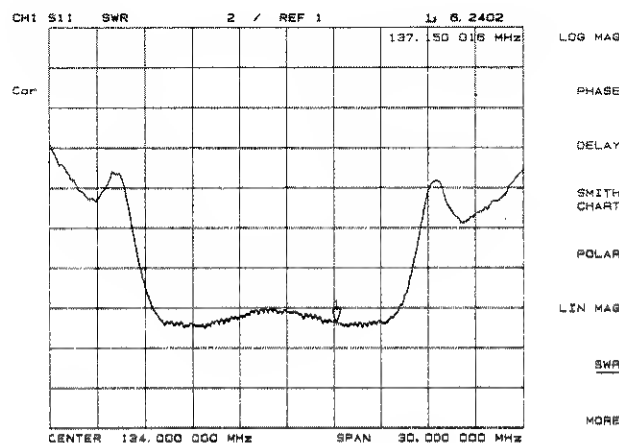

Figure 4-16. Typical SWR Display
**[SWR]** (SWR) reformats a reflection measurement into its equivalent SWR (standing wave ratio) value (Figure 4-16). SWR is equivalent to  $(1 + \rho)/(1 - \rho)$ , where  $\rho$  is the reflection coefficient. Note that the results are valid only for reflection measurements. If the SWR format is used for measurements of S21 or S12 the results are not valid.
**[REAL]** (REAL) displays only the real (resistive) portion of the measured data on a Cartesian format (Figure 4-16). This is similar to the linear magnitude format, but can show both positive and negative values. It is primarily used for analyzing responses in the time domain, and also to display an auxiliary input voltage signal for service purposes.